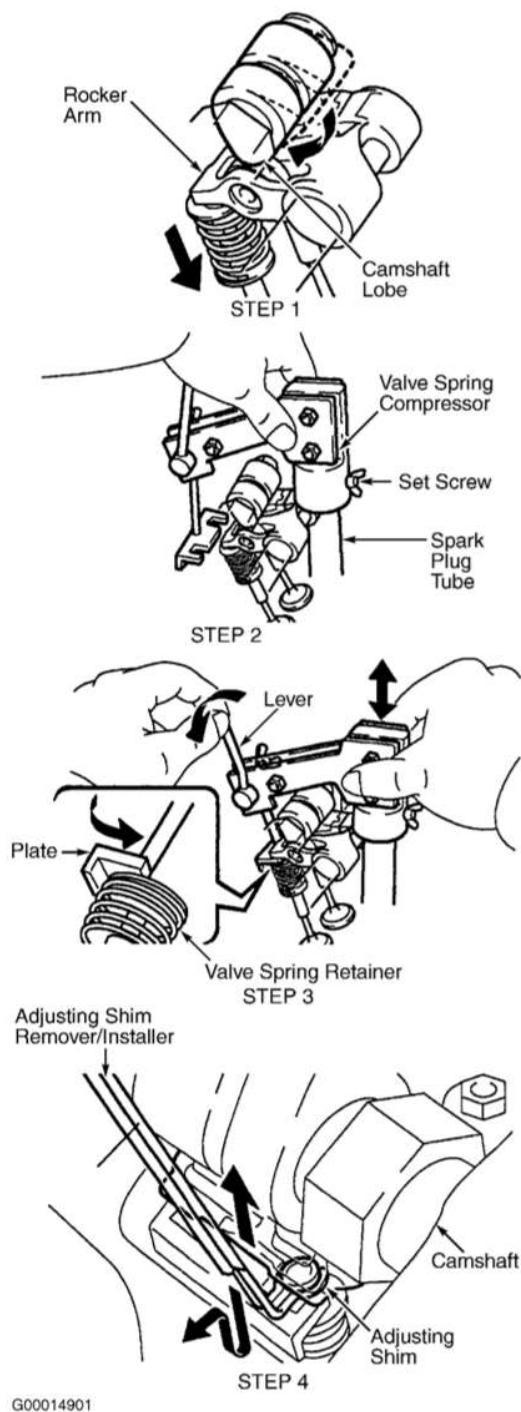

Fig. 20: Removing & Installing Adjusting Shim (Celica 1.8L 2ZZ-GE)
(1) Adjust valve clearance with engine cold. Verify valve clearance listed with valve clearance listed on underhood label (if available). If valve clearance on underhood label differs from valve clearance listed, use specification on underhood label.
8. If valve clearance requires adjustment, remove spark plug on cylinder in which valve clearance adjustment is required so compression is released. Rotate crankshaft so rocker arm for valve to be adjusted is pushed fully downward by the camshaft lobe. Perform STEP 1 in illustration. See **Fig. 20**.
9. Install Valve Spring Compressor (SST 09248-77010) on spark plug tube. Perform STEP 2 in illustration. See **Fig. 20**. Set screw must be loosened so valve spring compressor fully seats on spark plug tube. Operate lever so plate fully seats against valve spring retainer and tighten set screw. Perform STEP 3 in illustration. See **Fig. 20**. Ensure no clearance exists between plate and valve spring retainer, as any clearance may cause the valve keeper to be released.
10. Carefully rotate crankshaft so camshaft lobe is positioned upward, away from rocker arm. Ensure camshaft lobe does not contact valve spring compressor when rotating camshaft. Lift rocker arm assembly upward. Using Adjusting Shim Remover/Installer (SST 09248-07020), remove adjusting shim from top of valve stem. Perform STEP 4 in illustration. See **Fig. 20**.